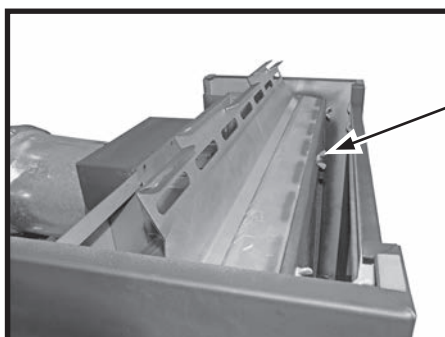
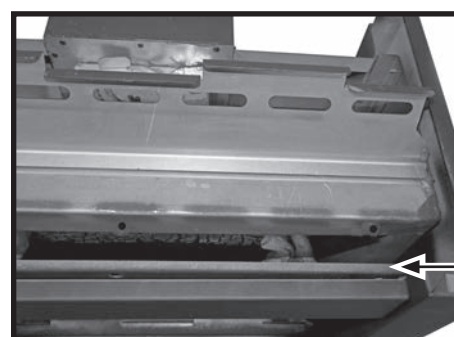

Fig. 35
Fig. 36
2. Remove the wing nut bolts (Fig.35) holding the glass barrier retainer frame to the gas stove frame and tilt the glass barrier so that it can be removed (Fig. 36)